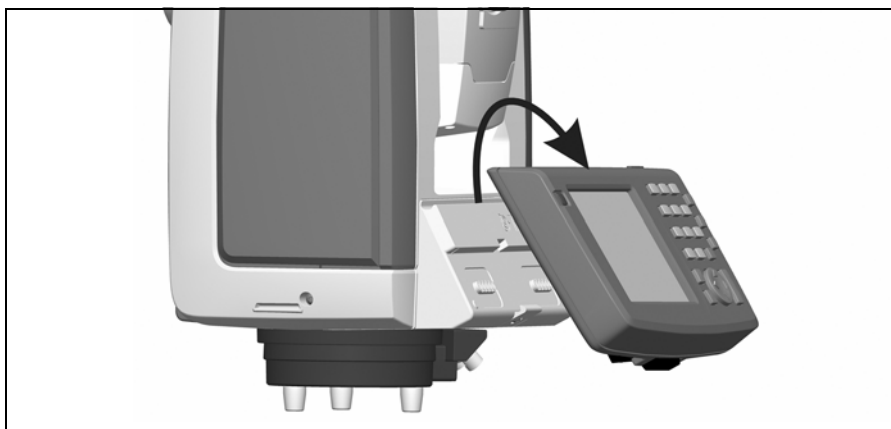

Figure 4.42 Detaching the Trimble CU
3. Unhook the top of the Trimble CU from the top edge of the panel attachment and remove the Trimble CU from the instrument, Figure 4.42